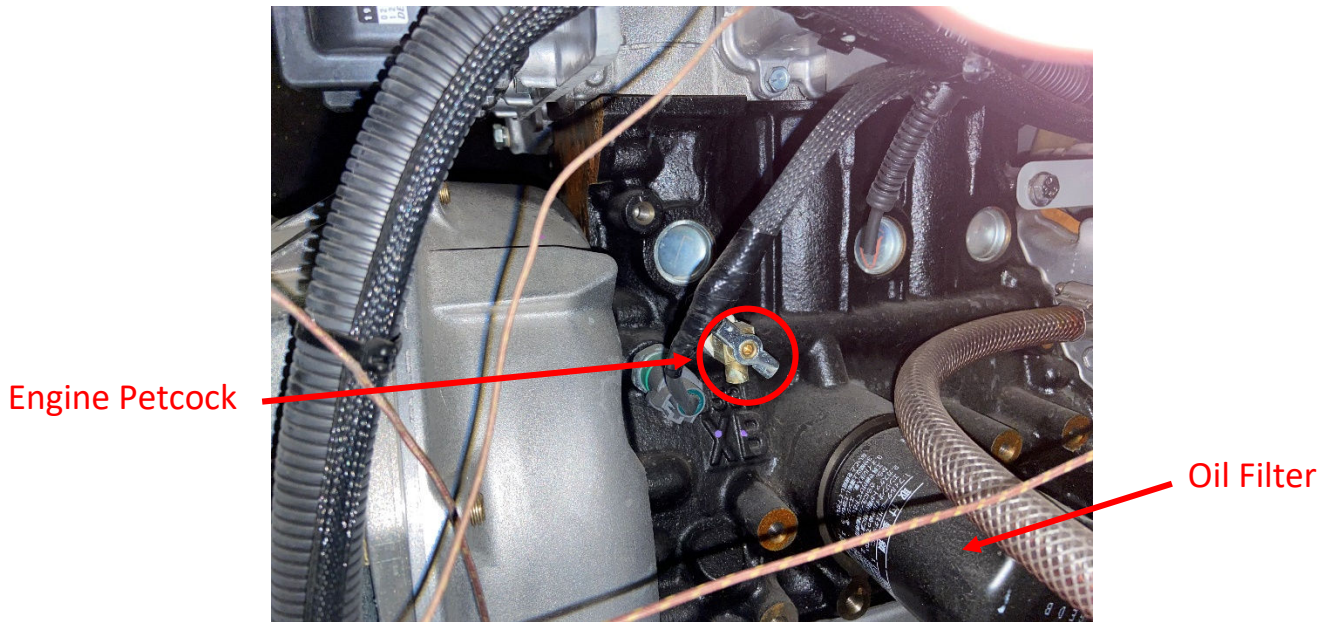

Figure 11-3 – Engine Block Petcock Location
2. Attach 3/8" hose to coolant petcock valve (Figure 11-3 - Engine Block Petcock Location) on engine block.